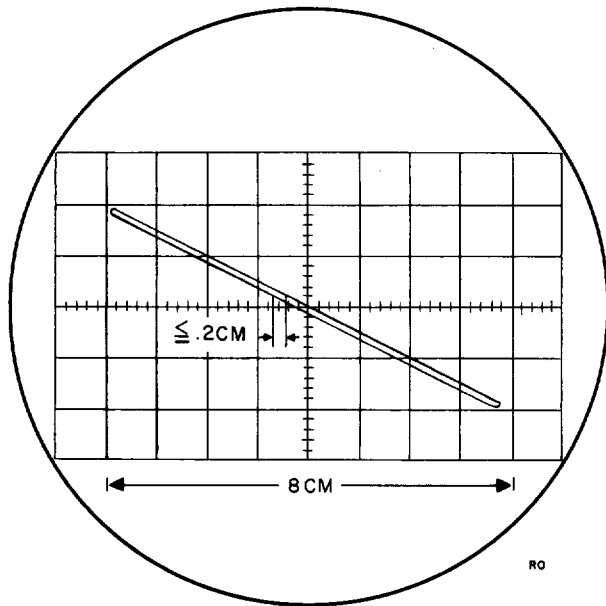

Figure 4-1. CRT Presentation of Oscillator Phasing
b. There should be a straight diagonal line on the oscilloscope from the second to the fourth quadrant (see figure 4-1).